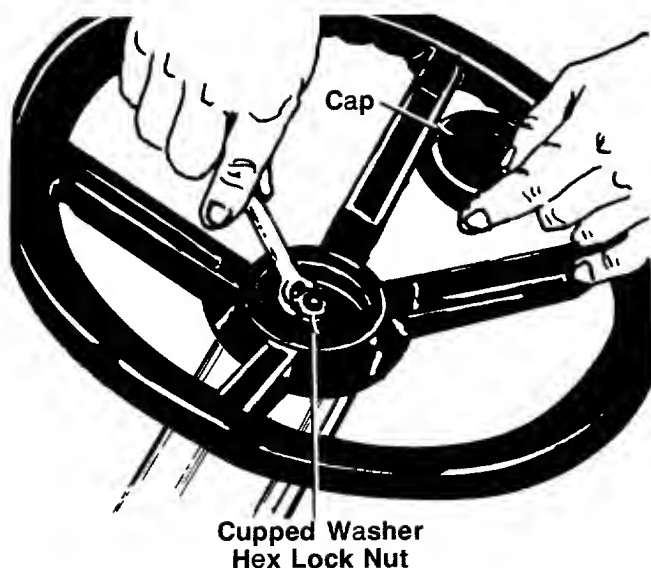

FIGURE 9.
15. Place **steering wheel (C)** in position desired. Make certain the steering wheel is seated over the end of the steering tube.
16. Place the **cupped washer** with the cupped side down over the **steering shaft**. Secure with 5/16" **hex lock nut**. See figure 9.